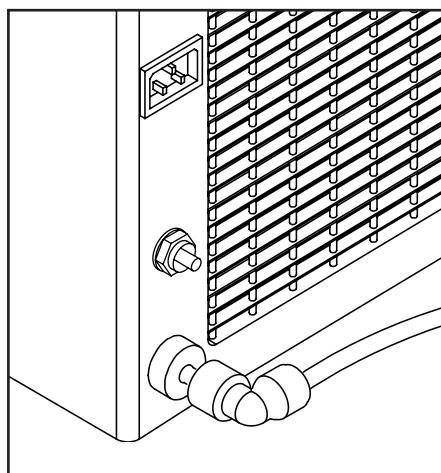

Fig 1
7. Connect the open end of the tube to the 3/4" female BSP located on the dispenser (see Fig 1).